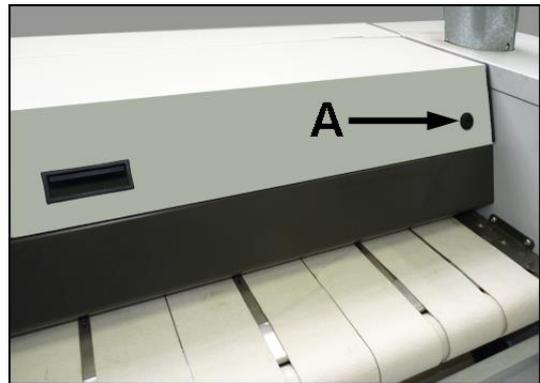

Fig. 11.1
3. Remove the two screws (**A**, Fig. 11.1) securing the ironer's front cover (one at each end of the cover).